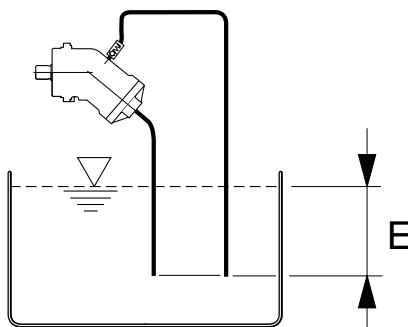

Fig. 4:
For installation positions ④ and ⑤, the prescribed minimum immersion level »E« must be maintained. This dimension applies to suction, drain and bleed lines, see figure 4.